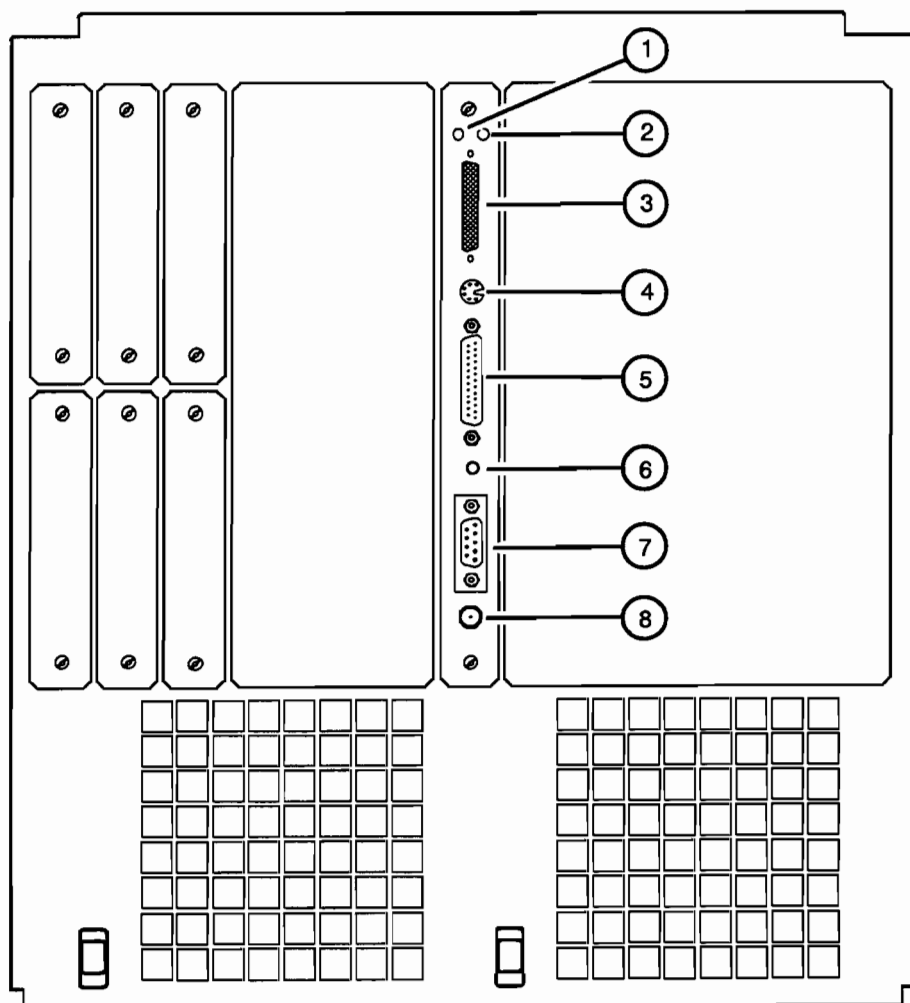

Figure 10-8. HP 9000 887S, 897S Rear Panel
- Figure 10-8 shows the HP 9000 887S, and 897S.
For the HP 9000 887S, and 897S figure 10-8, number 1 is the SCSI Self Test Light. This light should normally be off. Number 2 is the Termination Power Light. This light should normally be off. Number 3 is the SCSI connector. Number 4 is the connection for the console terminal. Number 5 is the connection for the available support modem. Number 6 is the Console/LAN Self Test Light. This light should normally be off. Number 7 is the AUI connector. Number 8 is the LAN connector.